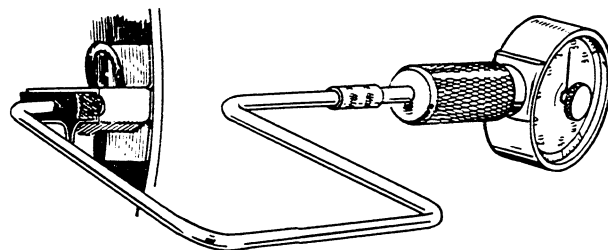

FIGURE 47. BRUSH SPRING TENSION TEST
9. **Inspection for Brush Spring Tension.** Measure brush spring tension with a tension meter as shown in Figure 47. Push the brush and take a reading just as the brush projects a little from the brushholder. On a new brush the spring tension should be 29 ounces (822 g; 0.81 kg) to 38 ounces (1077 g; 1.06 kg).